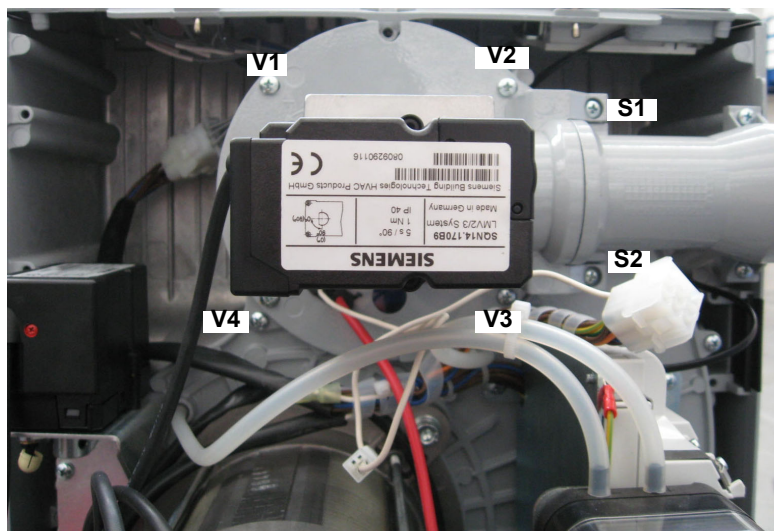

Fig. 31
- Removal, examination and cleaning of the combustion head (Fig. 31 on).
1 Remove the 4 screws V1, V2, V3, V4 and the couple of screws S1 and S2 (Fig. 31).